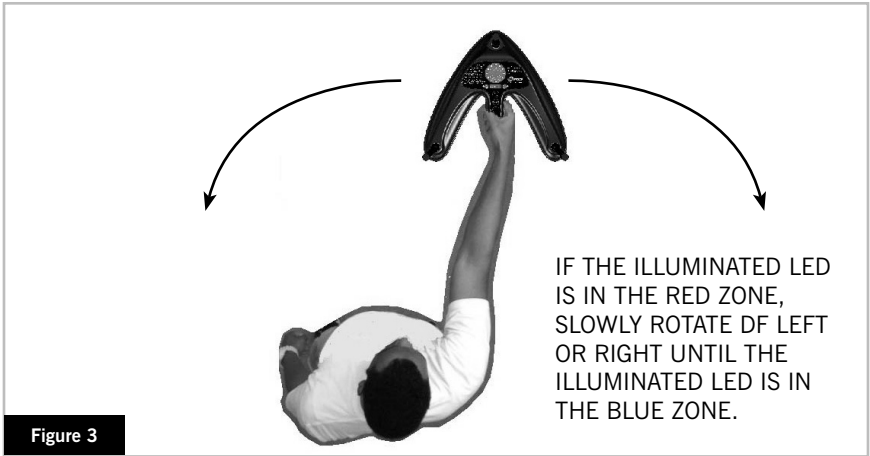

Figure 3
- c. If the illuminated LED is in the red zone of the circular bearing indicator, slowly rotate the DF to the left or right (see figure 3) until the illuminated LED is in the blue zone.